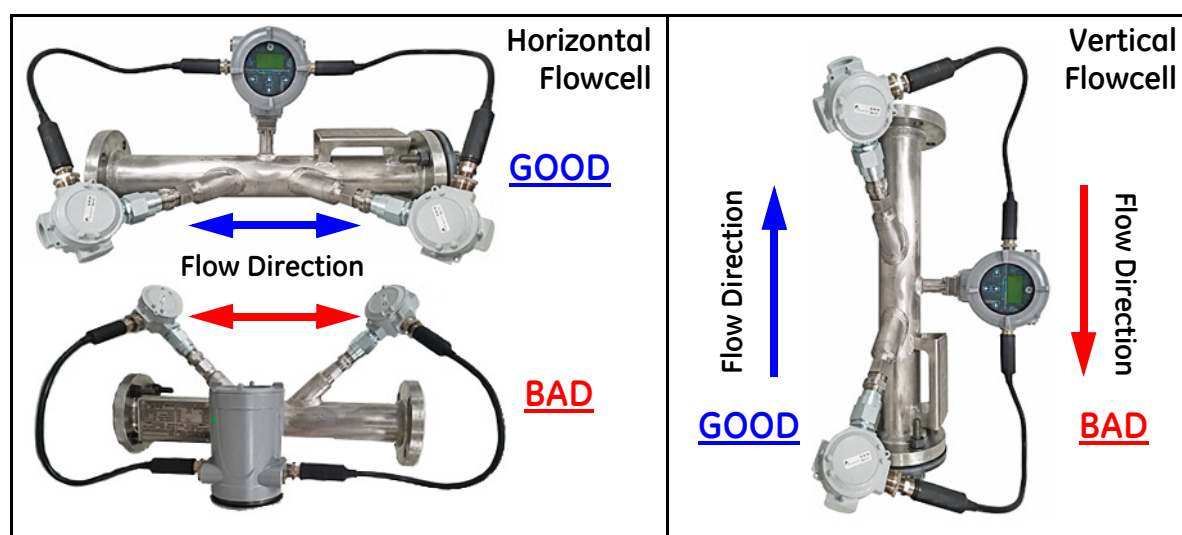

Figure 5: Good and Bad Flowcell/Transducer Orientations
- Locate the transducers on a common axial plane along the pipe. Also, locate them on the side of the pipe instead of on the top or the bottom, because the top of the pipe tends to accumulate gas and the bottom tends to accumulate sediment. Either condition will cause unwanted attenuation of the ultrasonic signals. There is no similar restriction with vertical pipes, as long as the fluid flow is upward to prevent free falling of the fluid or a less than full pipe (see *Figure 5* below).